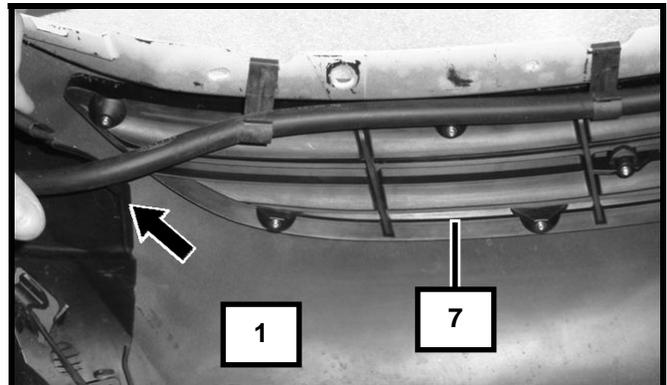

Fig. 8
- 27 Mount the TECHART air outlet grille 091.121.182.100 (8) into the hole of the front apron (1).
- 28 Attach the TECHART bottom part (7) and tighten with the screws 2.9x13 into the TECHART air outlet grille (9). If necessary unhinge the grille and press to the side, see arrow on fig. 8.
- 29 Reinstall the water hose; stick the sensor from the rear bottom flush to the TECHART bottom part (7).